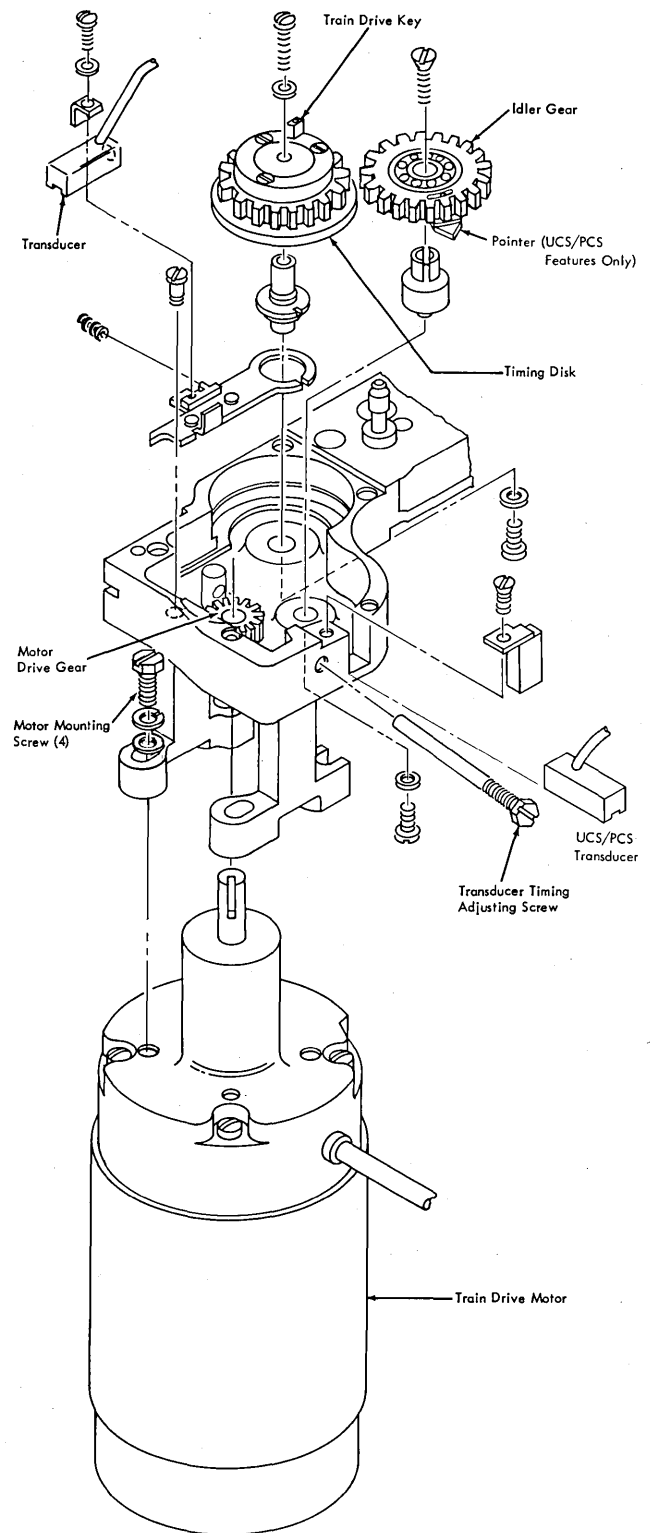

Figure 4-37. Train Drive and Timing Disk
4. Turn the idler gear to obtain the tightest mesh with the motor drive gear (Figure 4-37).
3. Loosen the transducer-holding screw, and position the transducer (see Figure 4-37) so the minimum clearance between the transducer and the closest portion on the disk is .001 to .002 in.
- h. Rotate the transducer timing adjusting screw (see Figure 4-37), and recheck the printing until the maximum number of printed characters are centered on the hammer impression marks.
- j. If a majority of the characters are centered on the face of the hammers, the transducer adjustment is proper. If this is not the case, adjust the transducer with the timing adjusting screw (see Figure 4-37) and repeat the printing check until it is.